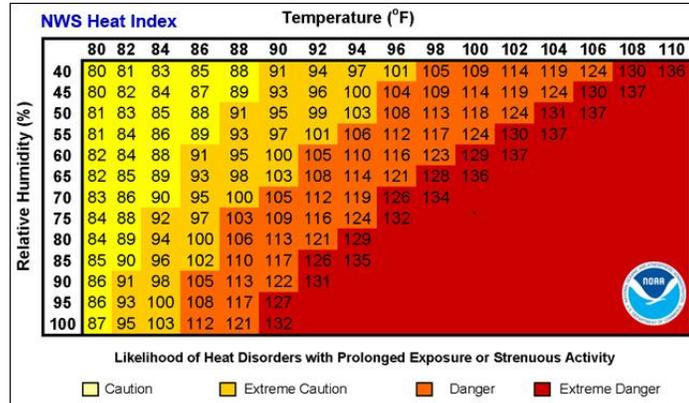

Figure 1: Heat Index
- The heat index in Figure 1, Heat Index is used to estimate heat-related risks to workers.